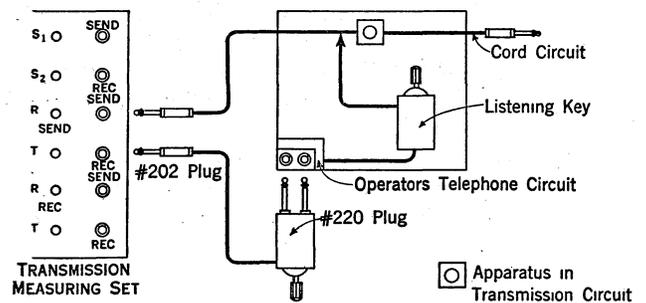

Figure 2
- 2.10 Figure 2 shows schematically the connections for the test of the operator's telephone circuits.